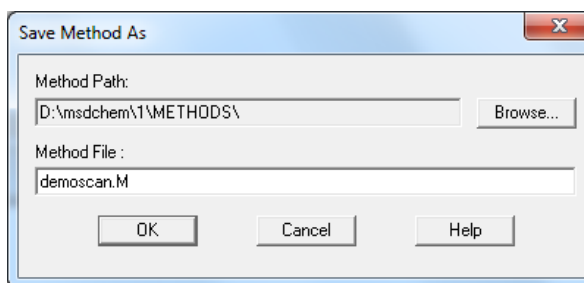

Figure 21 Saving the method
- 12 Select **OK** to save the parameters and close the dialog box. The **Save Method As** dialog box opens. See Figure 21.